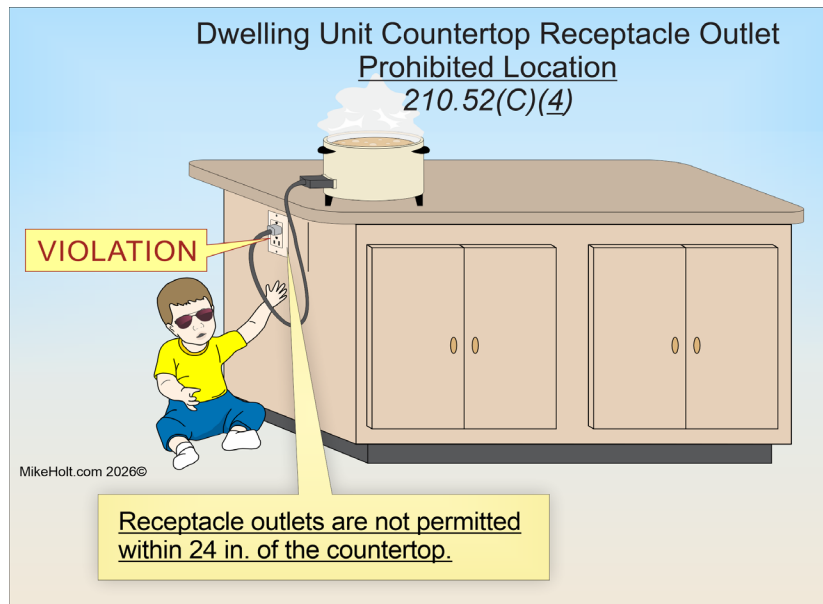

Fig. 10.
(4) Prohibited Receptacle Outlet Locations. Receptacle outlets are not permitted within 24 in. of the countertop (Fig. 10 on page 42).